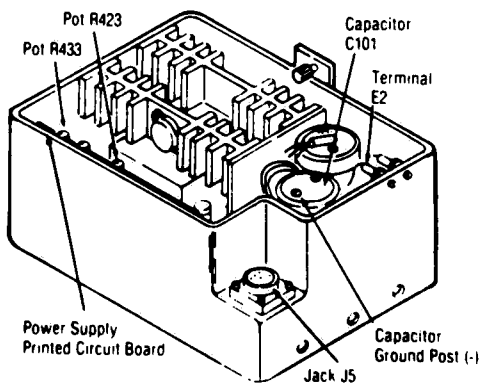

Figure 7-13. POWER SUPPLY (IRC).
1. With control power (CB1) off, connect DVM to ground post of capacitor C101 (-) and to terminal post E2 (+). See Figure 7-13.